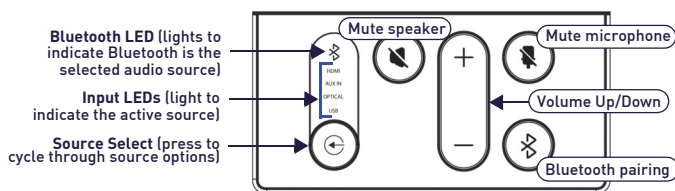

FIG. 9 ACV-5100 LEFT SIDE PANEL KEYPAD
All controls and LEDs are on the left side panel of the ACV-5100 (FIG. 9):
2. Use **Source Select** button on the ACV-5100 (FIG. 9) to select **USB** (if necessary).
1. With the ACV-5100 powered on, press the **Source Select** and **Bluetooth** buttons (see FIG. 9) simultaneously for 5 seconds.
1. Press the **Bluetooth** button on the ACV-5100 (FIG. 9) to turn Bluetooth device discovery mode on. The Bluetooth LED flashes to indicate discovery mode is active.
Use the **Source Select** button on the ACV-5100 (FIG. 9) to select **Bluetooth** as the audio source (if necessary).